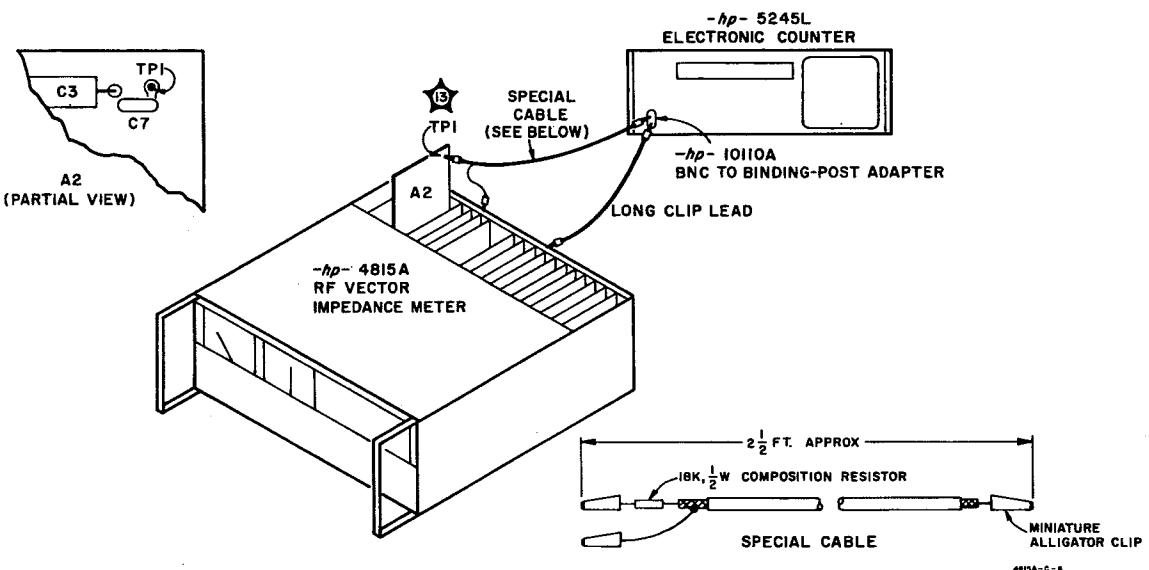

Figure 5-6. Setup for Reference Oscillator Adjustment
- a. Make connections as shown in Figure 5-6. Connect $\star\star$ to Frequency Counter using special cable illustrated.
- c. Connect A2TP1, **(13)**, to loose lead of A13C5 using special cable illustrated in Figure 5-6.